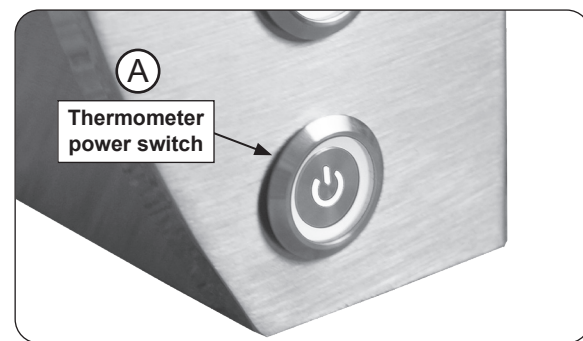

Fig. 4-1 Press thermometer power switch
2. Turn on the gas at its source. Then press the thermometer power switch (see Fig. 4-1, A). The digital controls will illuminate.